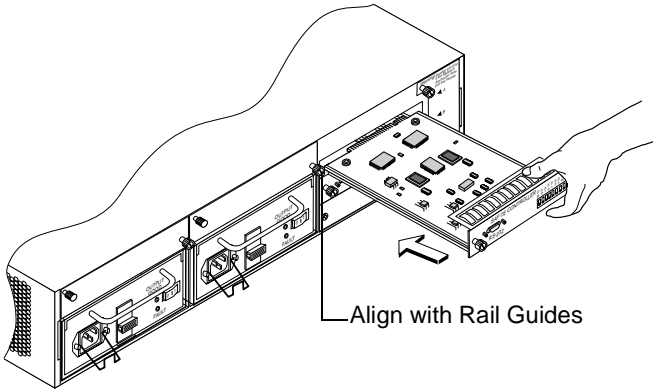

Figure 5-10. Replacing the SAF-TE Controller Card
- 4 Align the replacement card with the rail guides of the open bay and push gently but firmly until the card seats completely. See Figure 5-10.